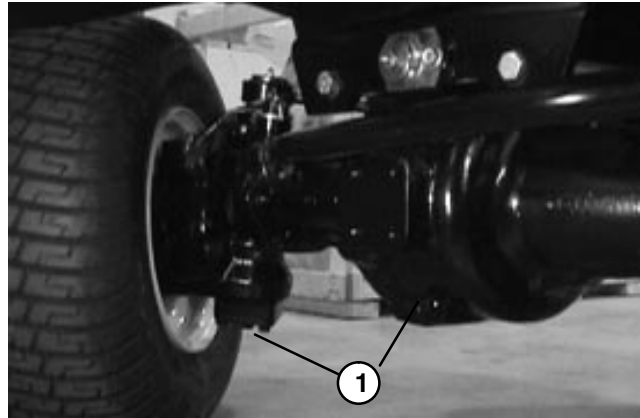

Figure 56
CHANGING REAR AXLE LUBRICANT (Model 30455 only) (Fig. 56)
2. Clean area around the (3) drain plugs, (1) on each end and (1) in the center (Fig. 56).